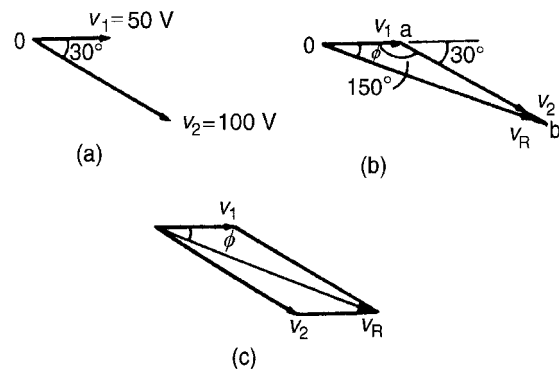

Figure 14.11
Phasors are usually drawn at the instant when time $t = 0$. Thus v_1 is drawn horizontally 50 units long and v_2 is drawn 100 units long lagging v_1 by $\pi/6$ rads, i.e. 30° . This is shown in Fig. 14.11(a) where 0 is the point of rotation of the phasors.
- Draw v_1 horizontal 50 units long, i.e. oa of Fig. 14.11(b)
- Join v_2 to the end of v_1 at the appropriate angle, i.e. ab of Fig. 14.11(b)
Alternatively, when two phasors are being added the resultant is always the diagonal of the parallelogram, as shown in Fig. 14.11(c).
A more accurate solution is obtained by calculation, using the cosine and sine rules. Using the cosine rule on triangle Oab of Fig. 14.11(b) gives: